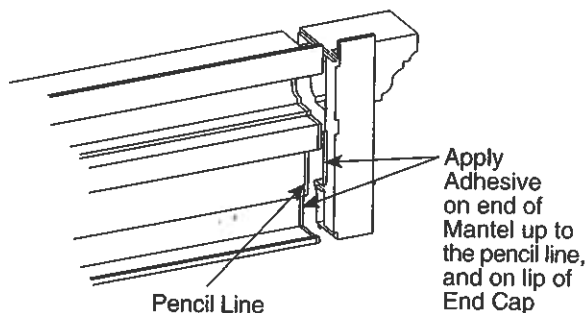

Figure 3
4. Spread a thin coat of styrene adhesive over the inside of the Mantel from the cut edge to the pencil line *and* on the lip of the End Cap (Figure 3).